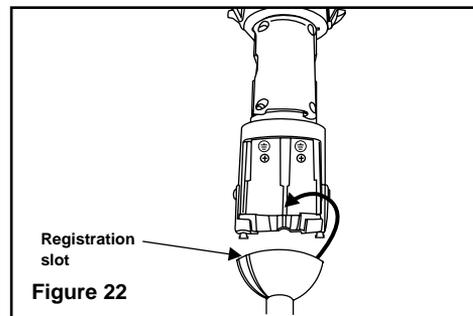

Figure 22
Step 5. Now lift motor assembly into position and place hanger ball into fan support stem. Rotate until the check groove has dropped into the registration slot and seats firmly. (Fig. 22) Rod should not rotate if this is done correctly.